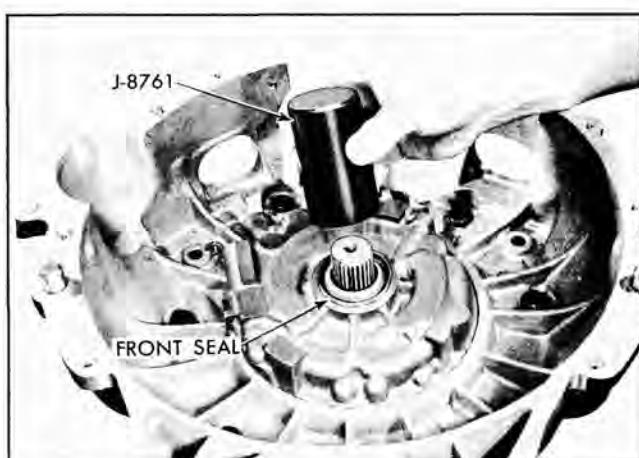

Fig. 133 Installing Front Seal
5. Install front seal, rubber lip down, using J-8761 (Fig. 133). Rotate transmission back to horizontal position, bottom up.